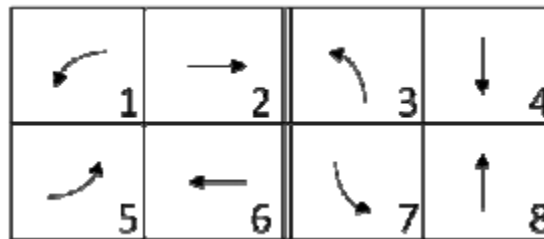

Figure 9: Dual ring diagram
Adding traffic control devices in Vissim is a two-step process. First, *Signal Controllers* (SCs), *Signal Groups* (SGs), and timing plans are created. Next, *Signal Heads* (SHs) are placed at the intersections and associated with the appropriate SG and SC. For this module, we will use the Vissim *Ring Barrier Controller* (RBC), which implements dual ring logic. We will use the RBC SG (i.e., phase) numbering scheme shown in Figure 9.
For our corridor, we will use permitted-only left turns on all approaches of the westmost (Burdell Dr.) and eastmost (Pi Pkwy.) intersections. Thus, these intersections will utilize SGs 2, 4, 6, and 8 (see Figure 9). The center intersection (Ramblin St.) will incorporate EB and WB protected lefts; thus, this intersection will utilize SGs 1, 2, 4, 5, 6, and 8.
- step viii. Assign to the *SC - Signal group* field the *signal controller* and *signal group* associated with the intersection and lane movement. Recall, you set the *SC* for the Buzz Blvd. and Burdell Dr. intersection as 111. The *SG* will follow the dual ring number given in Figure 9. Thus, for the EB through lane use, the *SG* is 2.